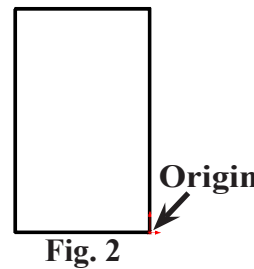

Fig. 2
Step 3. Click **Corner Rectangle**  (S) in the **Rectangle flyout**  on the Sketch toolbar.
Step 4. Draw a corner rectangle starting at the Origin , **Fig. 2**.
Step 5. Click **Smart Dimension**  (S) on the Sketch toolbar.